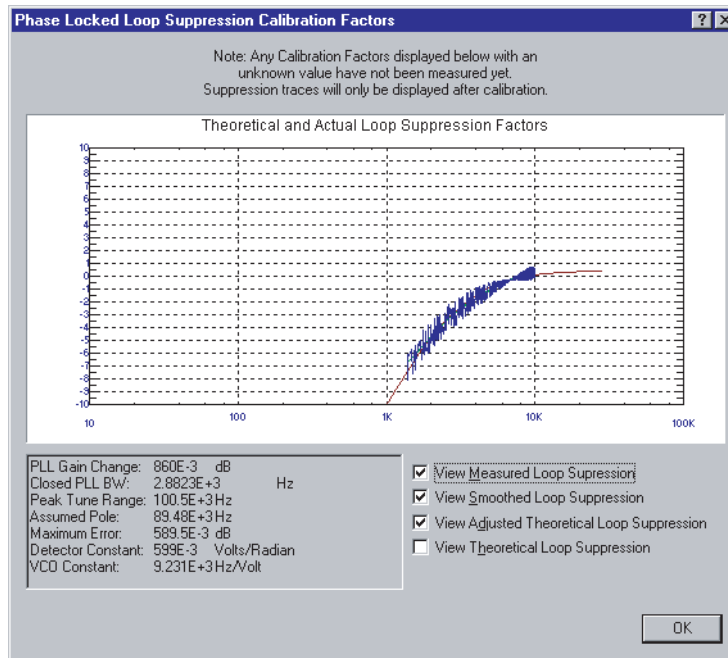

Figure 131 Selecting suppressions
- 2 When the PLL Suppression Curve dialog box appears, select **View Measured Loop Suppression**, **View Smoothed Loop Suppression**, and **View Adjusted Loop Suppression**. See Figure 131 on page 183.